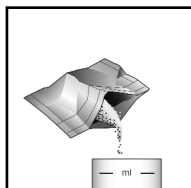

Figure 1
3. Empty the contents of one Cadmium Foil Pack into the sample cup (fig 1). Cap the cup and shake it vigorously for exactly **3 minutes**. Allow the sample to sit undisturbed for **2 minutes**.